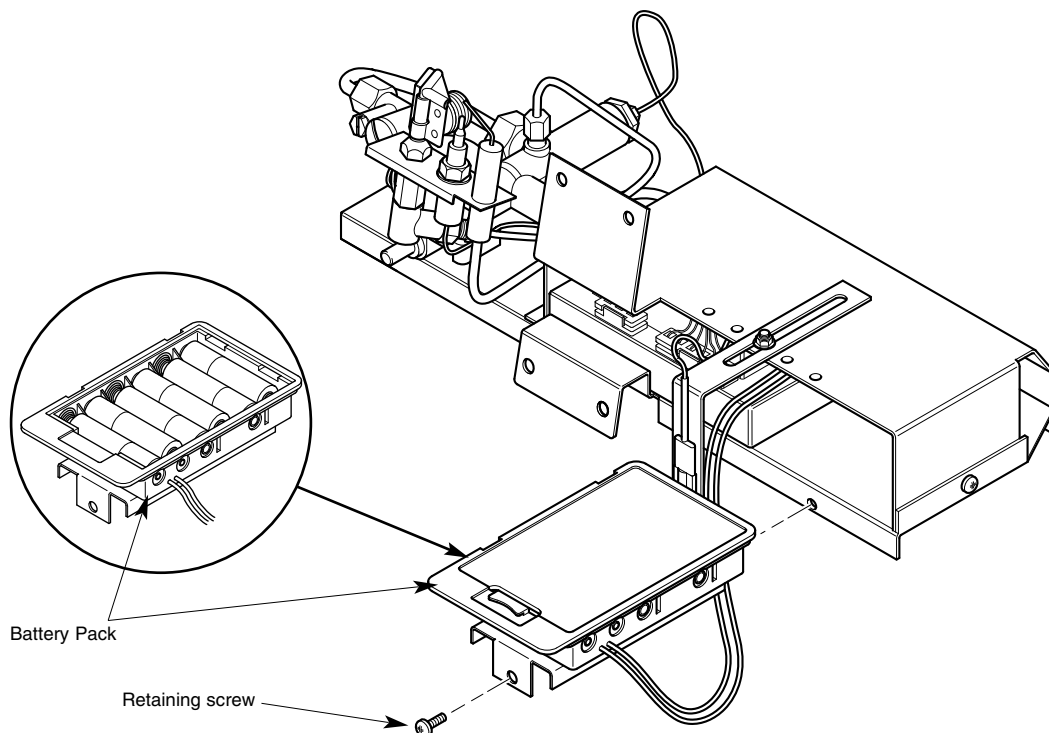

Fig. 13
Note: When the batteries are becoming discharged, the fire will emit a continuous beeping sound. The battery pack is held in place with a single screw, remove this screw and the pack can slide out. Unclip the cover and replace the batteries with good quality alkaline or lithium - 6 x 1.5V AA (Fig.13 - Page 14).
4. **Changing the batteries** - When the batteries are becoming discharged, the fire will emit a continuous beeping sound. The battery pack is held in place with a single screw, remove this screw and the pack can slide out. Unclip the cover and replace the batteries with good quality alkaline or lithium - 6 x 1.5V AA (Fig. 13).